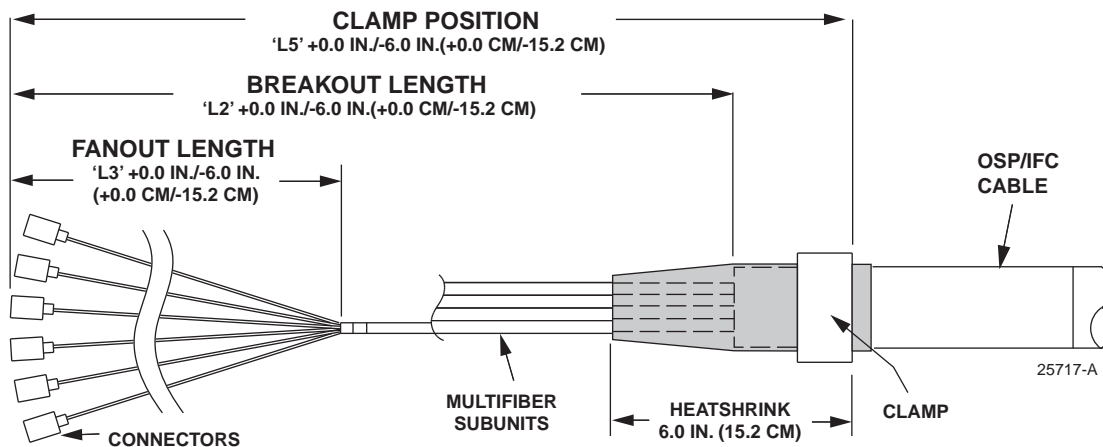
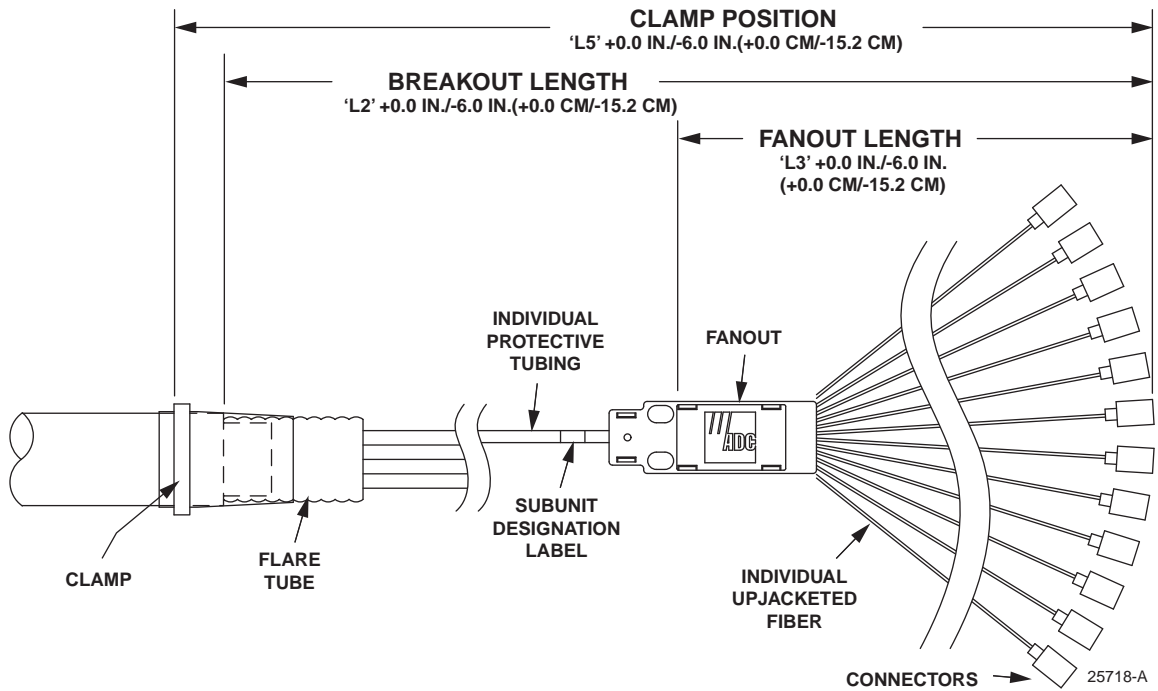
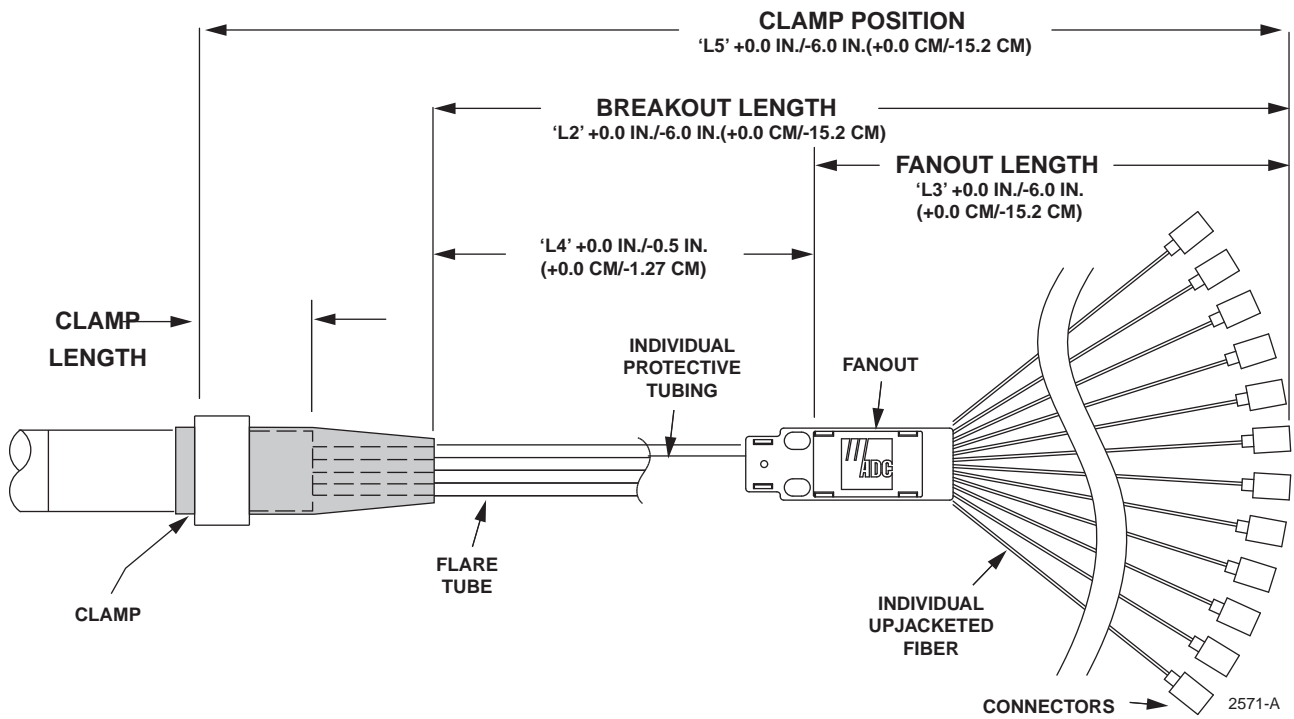

Figure 17. IFC Stranded Cable Breakout Dimensions
Figure 18. IFC Ribbon Breakout Dimensions
Figure 19. OSP Cable Breakout Dimensions
- b. Associate these variables to the breakout diagrams given in Figure 17 (IFC Stranded) Figure 18 (IFC Ribbon), or Figure 19 (OSP) for the cable type being installed.